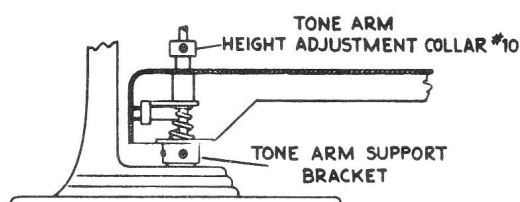
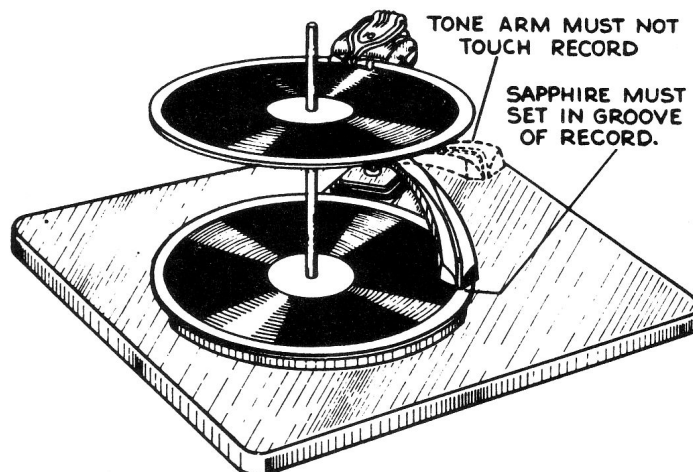

FIG. 9
FIG. 5
The tone arm height should be so adjusted as to permit the sapphire to engage and ride in the grooves of one record placed on the turntable, but at the same time prevent the tone arm from touching the records on the supports while the mechanism is going through cycle, fig. 5.
2. With the pickup near the edge of the record, loosen the set screw (with Bristo Wrench #6), holding collar 10, fig. 9, and moving it up or down on shaft 42A, so as to have the conditions indicated in sketch, fig. 5.